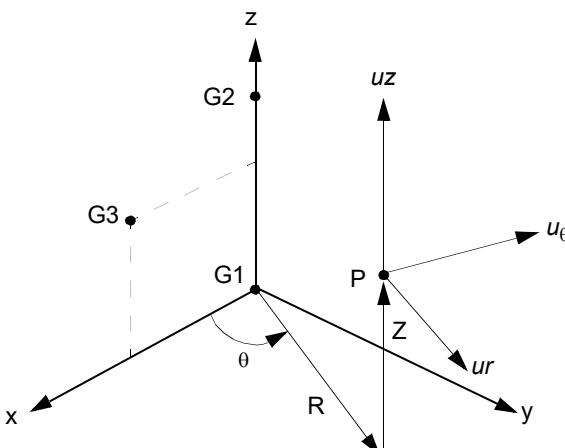

Figure 9-40 CORD1C Definition
4. The location of a grid point (P in Figure 9-40) in this coordinate system is given by (R, θ, Z) where θ is measured in degrees.